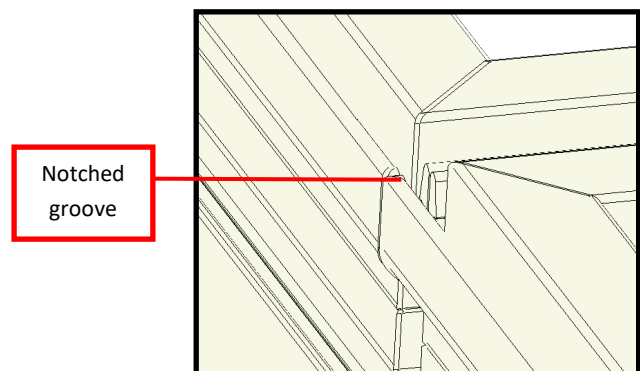

Figure 5
E. Prepare accessory grooves for mull cover. Using a chisel, notch out Metal for a continuous vertical mull cover and. (figure 5).